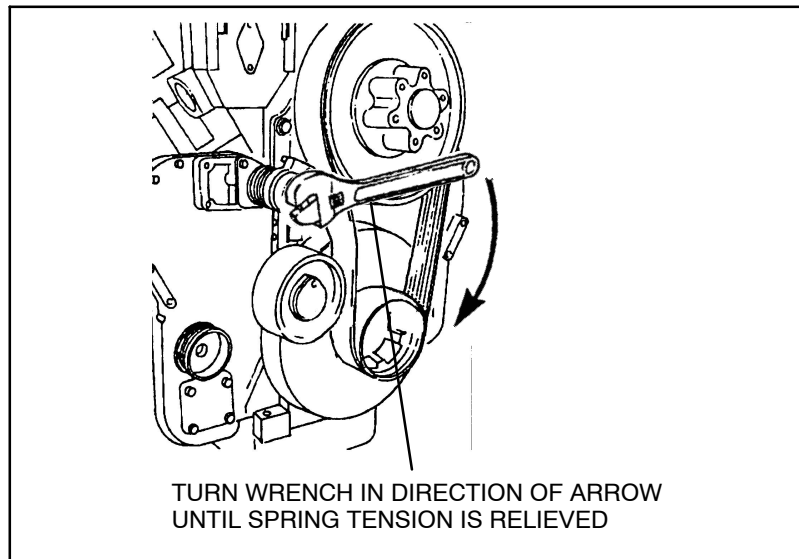

FIGURE 5-6. FAN BELT REPLACEMENT
6. Use an 8-point socket and breaker bar or a large wrench to hold the idler in position against the spring tension. Slowly turn the wrench until the spring tension is relieved (Figure 5-6). Remove the fan belt.